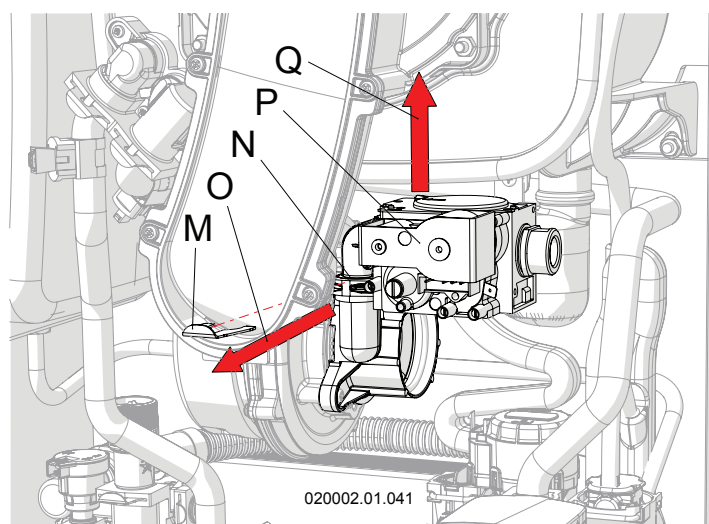

Figure 6-3 – Removing the gas valve
8. - Remove clamp spring "M" from seat "N" releasing valve "P" (see figure 6-3);
11. - Refit the gas valve (see figure 6-3, detail "P"), making sure to reposition spring "M";